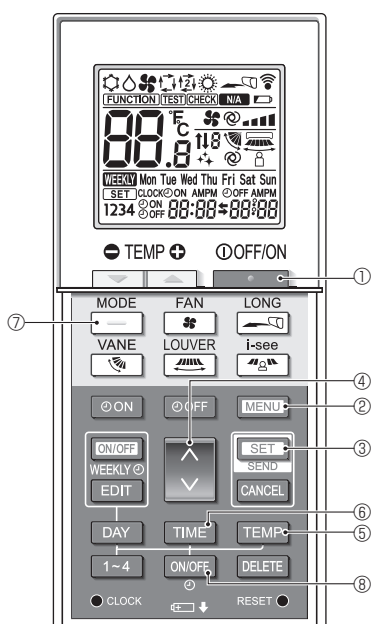

Fig. 7-9
1. Press the **STOP** button ① to stop the air conditioner.
2. Press the **MENU** button ②.
The Function setting screen will be displayed and the function No. ④ will blink. (Fig. 7-9)